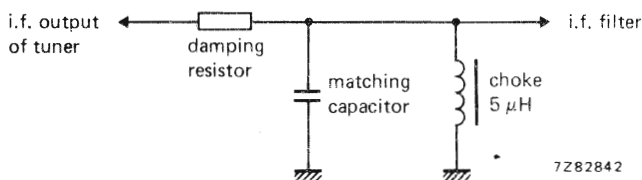

Fig. 8.
The tuner needs a d.c. path from the i.f. output terminal (10) to earth, preferably via a choke of approx. $5\ \mu\text{H}$ outside the tuner (Fig. 8). For damping the i.f. output circuit and matching the i.f. output impedance of the tuner to the i.f. amplifier, a series resistor and a parallel capacitor as shown in Fig. 8 should be used.